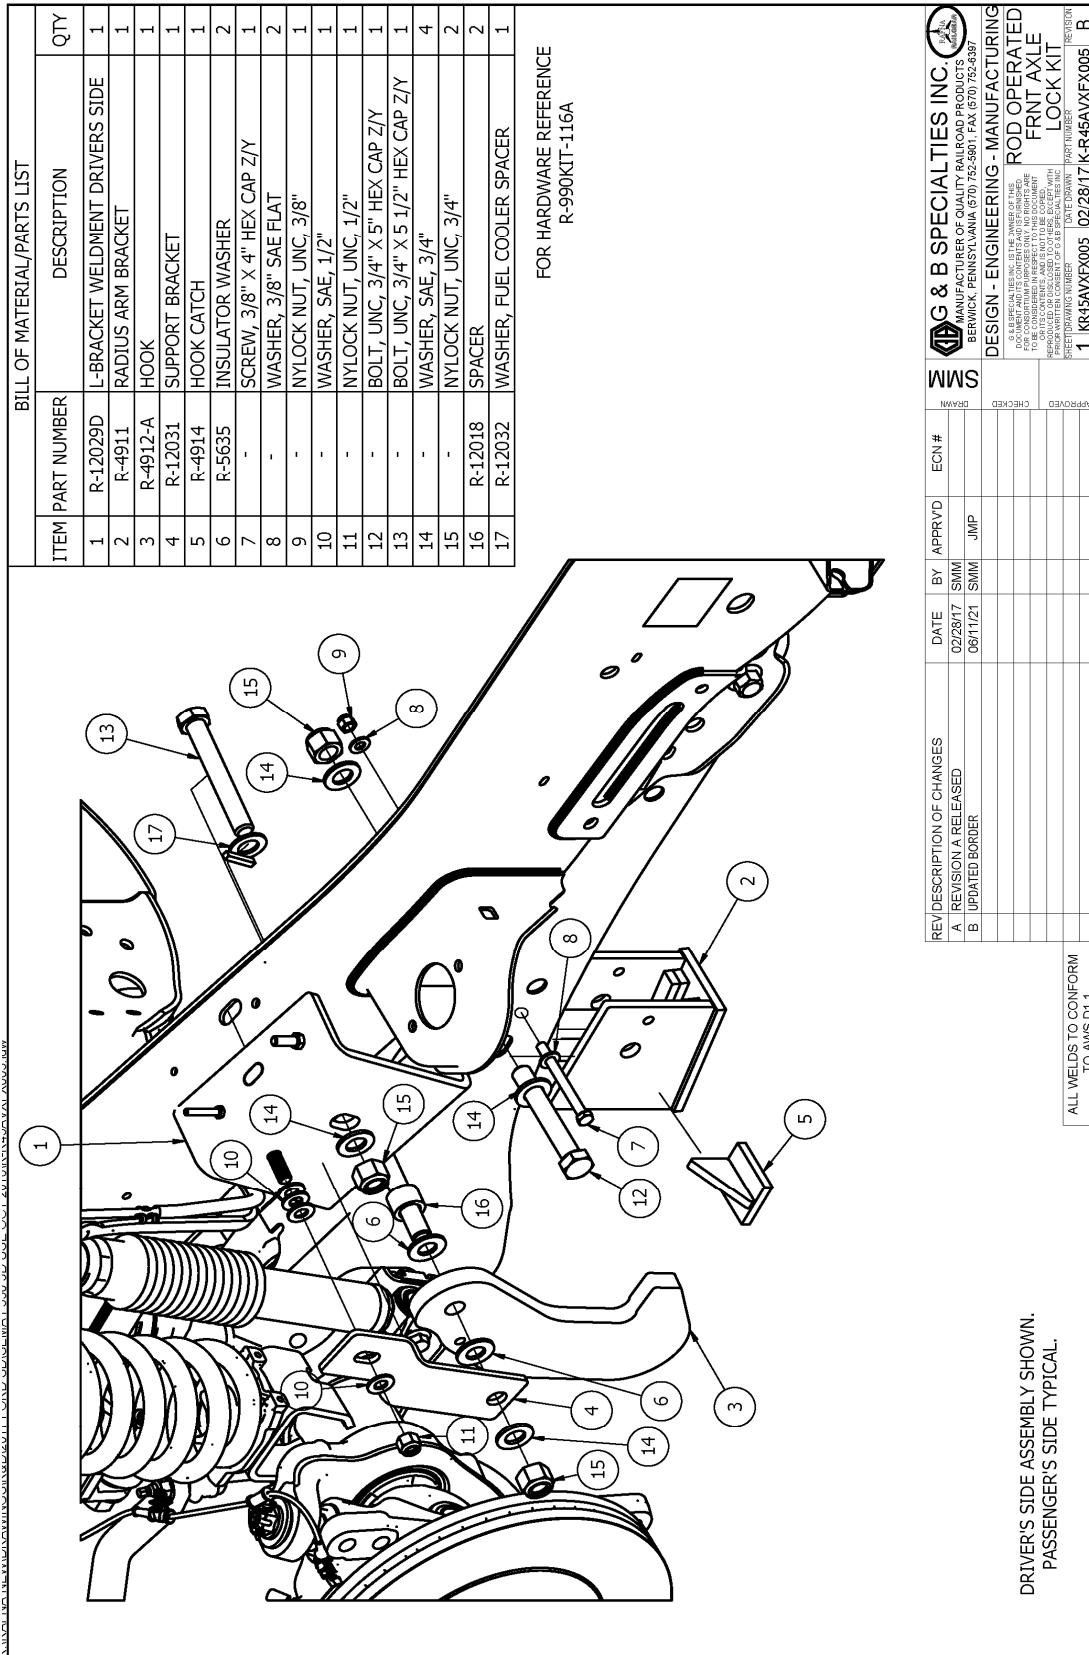

Figure 1
3. Find the slotted hole on top of the frame. Take bracket R-12029D (Driver's Side) and align the locating slug on the bracket with the slot in the frame. When done correctly, slug should drop into the slot on the frame and the bracket sit against the top and outer surfaces of the frame. See (Fig. 1).
4. With the bracket on the frame, center punch the slot on the bracket. Remove bracket and drill a  $49/64$ " hole. Hole should line up with existing square hole where we removed the clip from earlier. Check with supplied  $3/4$ " bolt to ensure bolt sits parallel and is not angled. Hole may need to be reamed to ensure this. The hole on the outside of the frame can also be obtained by drilling the square hole on the inside of the frame through to the outside. The bracket is slotted for this reason. Just ensure bolt sits straight and not on an angle. Once hole is in place and bolt sits parallel, re-install fuel cooler leaving out the clip we removed. Install bracket to frame, using R-12032 and  $3/4$ " hardware as show in Fig. 1 & 2. See Fig. 8 for proper install reference. (Passenger side will need the hole drilled through to the inside of the frame. There are no holes present on the passenger side.)
5. On the radius arm you will see a slotted hole with a hole next to it. Take R-4911 and place it on the radius arm with the larger hole in the bracket aligned with the slot, positioned closest to the hole side of the slot. See (Fig.6) Place  $3/4$ " bolt that was supplied through the bracket and radius arm to help hold the bracket, and with the bracket against the bottom of the radius arm, mark the center of the small hole of the bracket on frame. You may also mark the center of the hole on the inside of the frame. Drill a  $13/32$ " hole through the radius arm, or on the inside and outside where marked. With hole drilled, install bracket using the  $3/4$ " and  $3/8$ " hardware supplied in kit. See (Fig.1 & 3) for reference. Ensure not to over-tighten bolts and deform the radius arm.